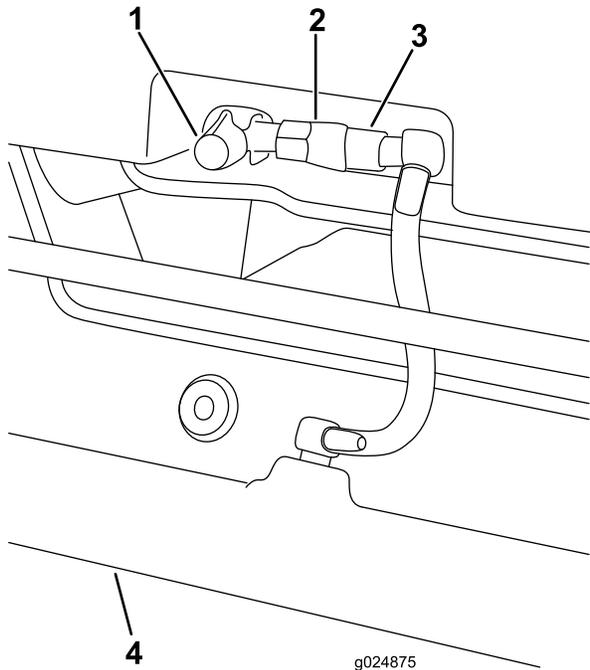

Figure 10
3. Check the sprinkler manifold (Figure 10) and remove any dirt or debris.
1. Detach the valve coupler (Figure 10).